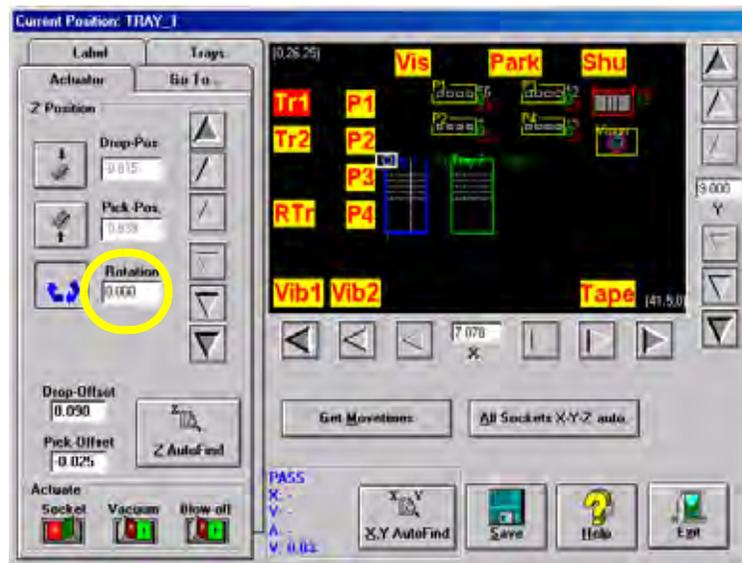

Figure 3-27—Rotation set at 0.000 at Tr1
- Enter the rotation value **0.000**. See Figure 3-27.